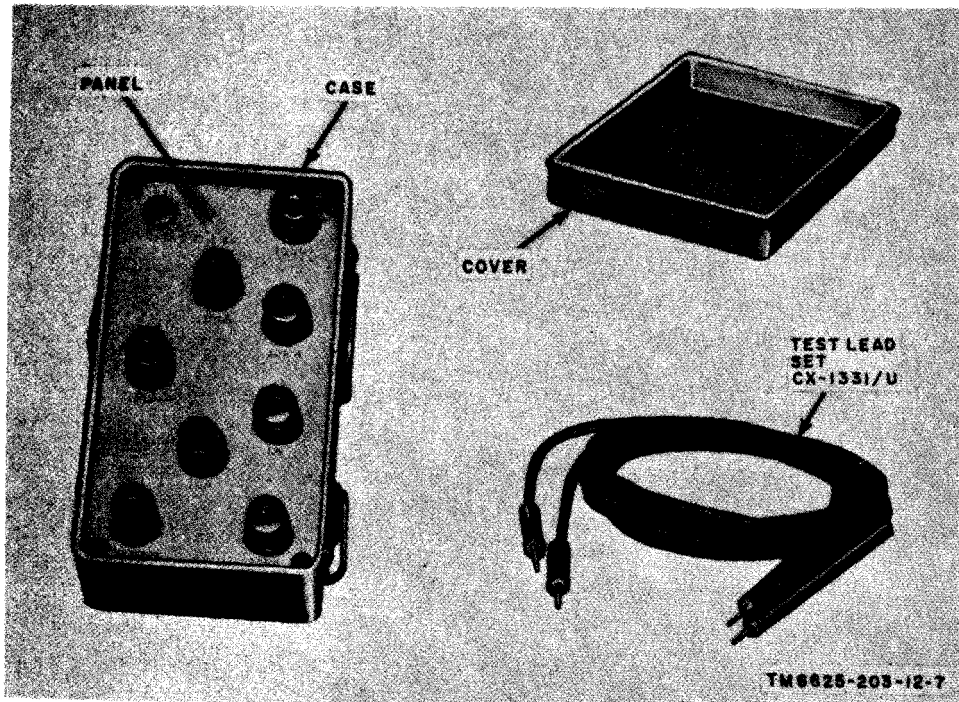

Figure 7. Multirange Instrument Shunt MX-1471/U.
a. Multirange Instrument Shunt MX-1471/U (fig. 7). Multirange Instrument Shunt MX-1471/U (shunt) contains seven precision shunt resistors accessible from terminals on the panel. The MX-1471/U enables the multimeter to be used for dc current measurements (par. 23) in seven ranges as follows:
- (1) 0 to 100 microampere.
- (2) 0 to 1 milliamperes.
- (3) 0 to 10 milliamperes.
- (4) 0 to 100 milliamperes.
- (5) 0 to 1 ampere.
- (6) 0 to 10 amperes.